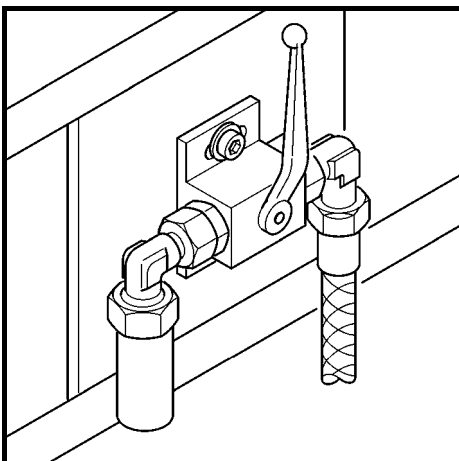

Fig. 27
Before draining the oil or before adding oil via the service plate coupling or a plug on a filter cover, always open the tank pressure release valve (Fig. 27) located at the back of the cabin.
- After refilling, close the tank pressure release valve (Fig. 27) to repressurize the hydraulic tank.